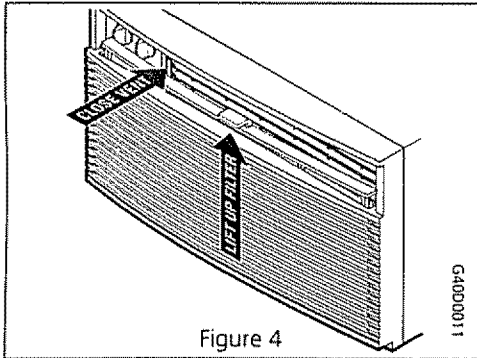

Figure 4
- Some models, push the vent control handle to the CLOSED position. Lift the filter straight up and out (Figure 4)